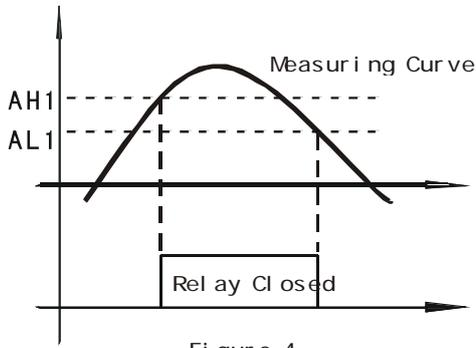

Figure 4
- b) Set AH1>AL1: Normally used for upper limit alarm trigger. See Figure 4.